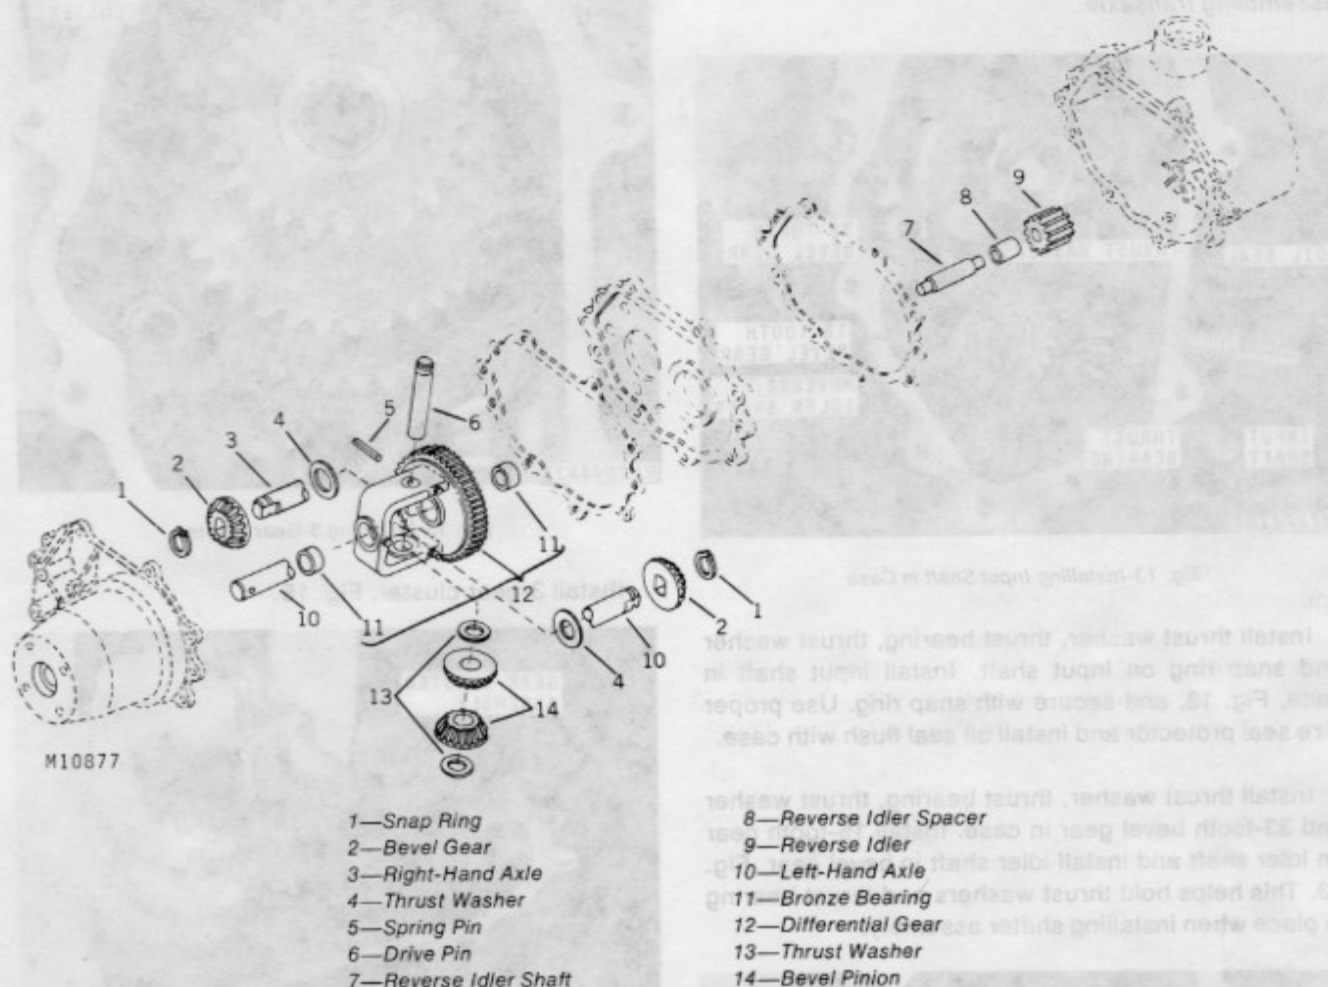

Fig. 12-Exploded View of Differential Assembly
Use a suitable driver and drive out spring pin, (5, Fig. 12), securing drive pin (6) to differential gear (12). Remove drive pin (6).
Install right-hand (long) axle (3, Fig. 12) into differential gear. Place thrust washer (4) and bevel gear (2) on axle. Secure with snap ring (1).